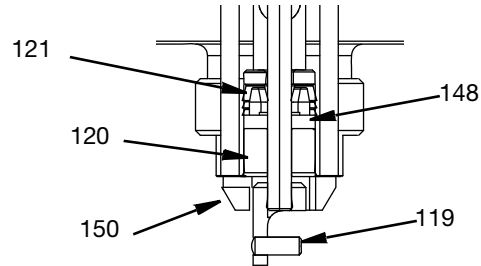

FIG. 52
1. Install the upper shaft bearing (143) into the check valve housing (109).
2. Install retaining ring (118) making sure it is fully engaged in the ring slot.
3. Insert the rotary seal (121) into the cavity of the check valve housing (109) using the insert tool (142). **NOTE:** Orientation of rotary seal (121) seal spring faces outward.
4. Pack the cavity with lubricant grease (148). See FIG. 52. Using the insert tool (142), install the lower shaft bearing (120) so it is flush with the housing end.